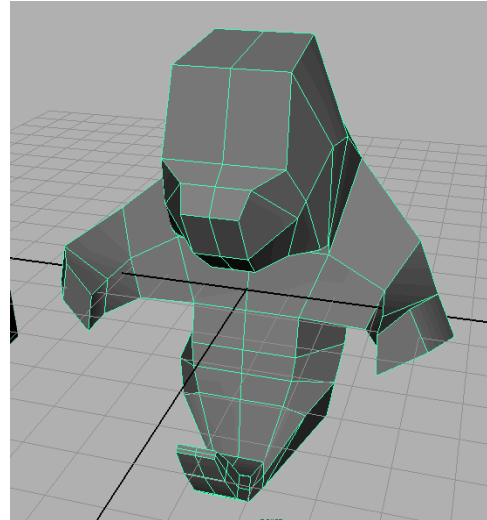

Figure 14: The rough forms of the front legs are created by moving edges, faces, and vertices.
8. Use the move, scale, rotate tools to move and shape the geometry to resemble the basic form of the front legs in the reference image. Use figure 14 as a guide.